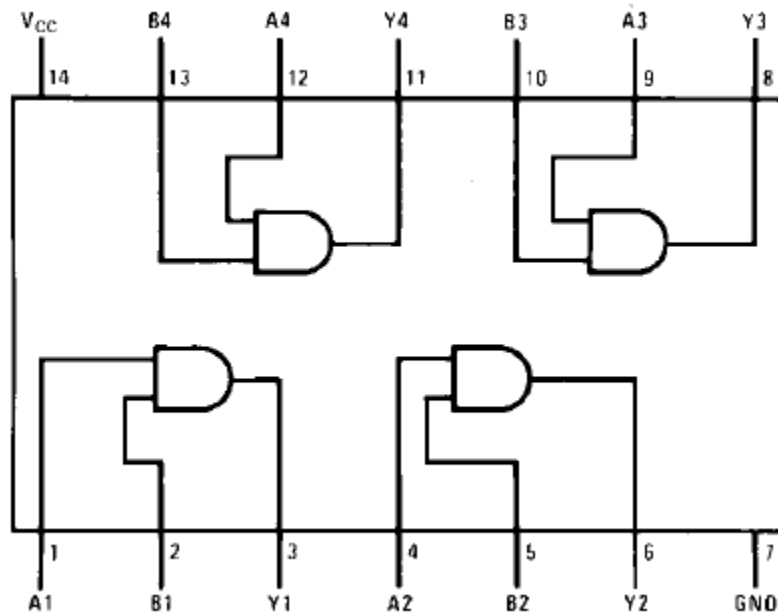

Figure 13
**Note:** There are four AND gates inside the 74LS08 IC. You can see them below in Figure 13.